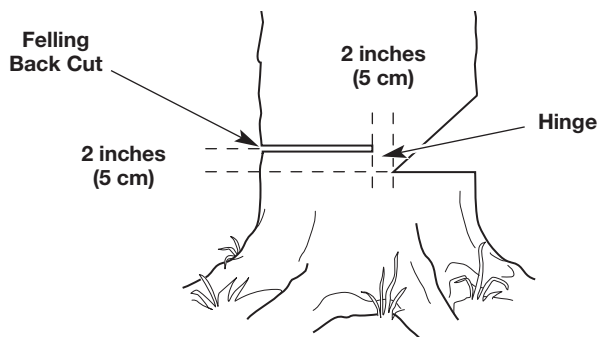

Fig. 13
1. Make a horizontal cut into the opposite side of the tree from the notched undercut (Fig. 13). Make the cut approximately 2 inches (5 cm) above the bottom of the notched undercut (Fig. 13).
2. As the cut gets close to the notched undercut, only a thin band of wood will support the tree. This band of wood is referred to as the hinge (Fig. 13). The hinge helps control the fall of the tree. Leave approximately 2 inches (5 cm) of hinge in place. Do not cut through the hinge. Cutting through the hinge could cause the tree to fall in any direction.